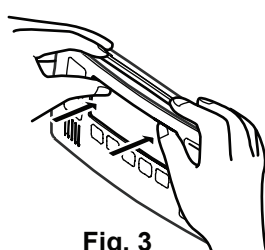

Fig. 3
5. Carefully remove the face plate from the water controller, do this by placing your thumbs on the front of the digital display and while hooking your fingers behind top of plate and gently push as (Fig. 3), **DO NOT** use a screwdriver as this may damage the controller.